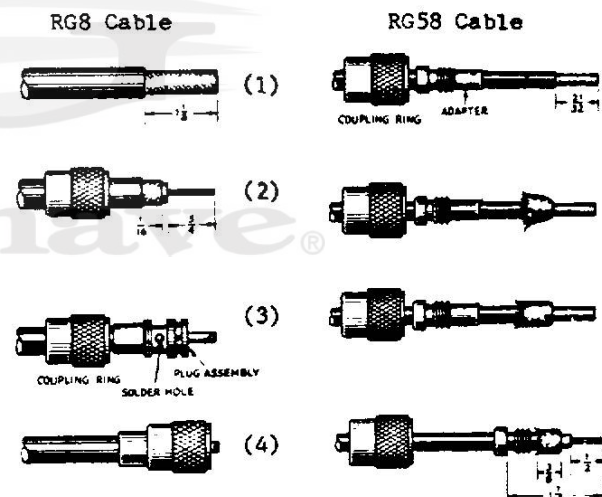

Figure 2-2. Connector Assembly
6. Install co-axial connector on antenna cable as shown in Figure 2-2, and insert antenna connector into rear-panel mounted antenna receptacle.
The procedure for installing a PL-259 (83-1SP) antenna connector is dependent upon type co-axial cable used - the PL-259 is installed directly on 0.405" OD cable such as RG8/A, whereas, the plug requires an adapter when used with the 0.195" OD cable such as RG58/A. The procedures for both cable types are given below, and shown in Figure 2-2.
1. Trim end of cable flush; remove vinyl jacket from 1-1/8" of cable as shown in Figure 2-2(1). Do NOT nick braid.
2. Bare 3/4" of center conductor. Trim braided shield 1/16" and tin. Slide coupling ring on cable. See 2-2 (2) above.
1. Trim end of cable flush; remove vinyl jacket from 21/32" of cable as shown in Figure 2-2 (1). Do NOT nick braid. Slide coupling ring and adapter on cable.
2. Fan braid slightly and fold back over cable. See Figure 2-2 (2).
3. Compress braid around cable, Figure 2-2 (3), and position adapter to dimension given in Figure 2-2 (4). Press braid over adapter sleeve and trim to dimension shown.